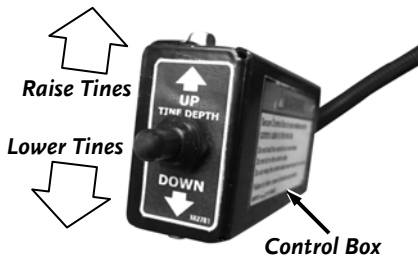

Figure 4
5. Using the Control Box, lower the Tines all the way down, which will raise the Wheel Axles from the pallet (**Figure 4**).